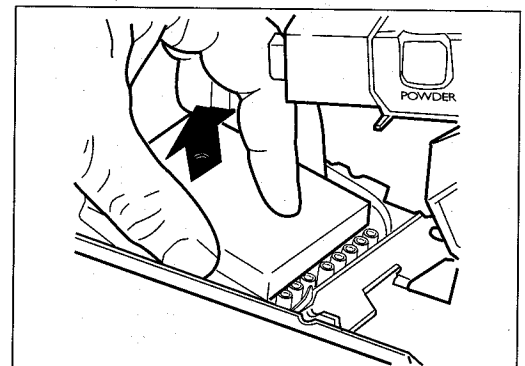

Figure 34
4. Carefully lift the liner, leaving the primers on the tray, Figure 34.